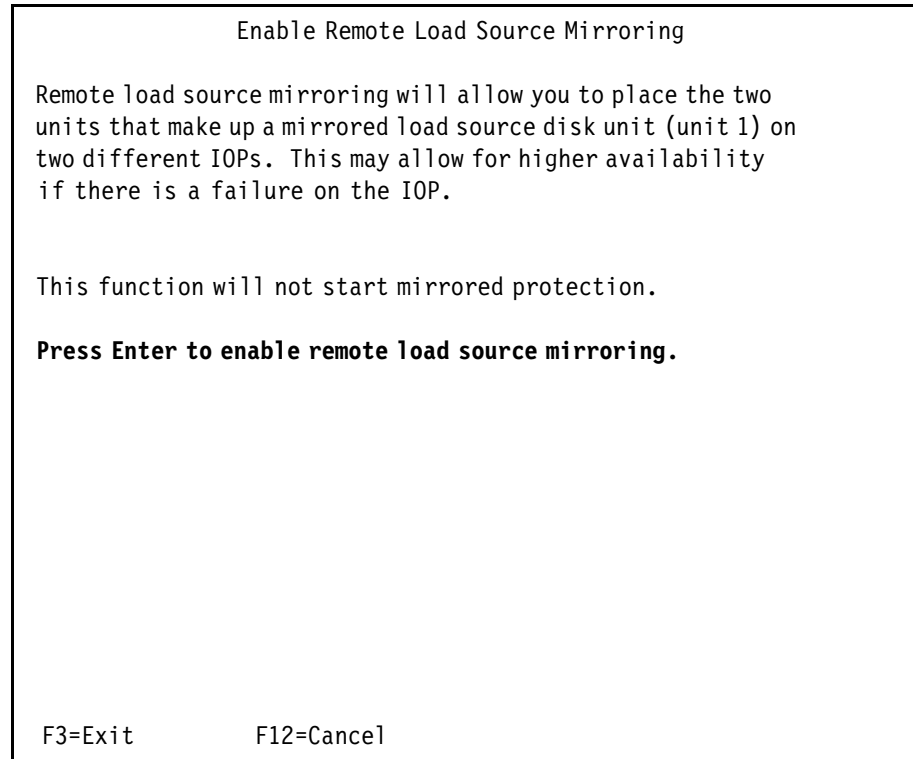

Figure 16-50 IBM i DST Enable remote load source mirroring
8. After the IBM i partition restart, we are presented with the IPL or Install the System screen, for which we select the option **3. Use Dedicated Service Tools (DST)** to log in to DST and choose the options **4. Work with disk units** → **1. Work with disk configuration** → **4. Work with mirrored protection** → **4. Enable remote load source mirroring** as shown in Figure 16-50. This allows us to mirror the IBM i load source, that is, disk unit 1, across different (virtual) I/O processors (IOPs).